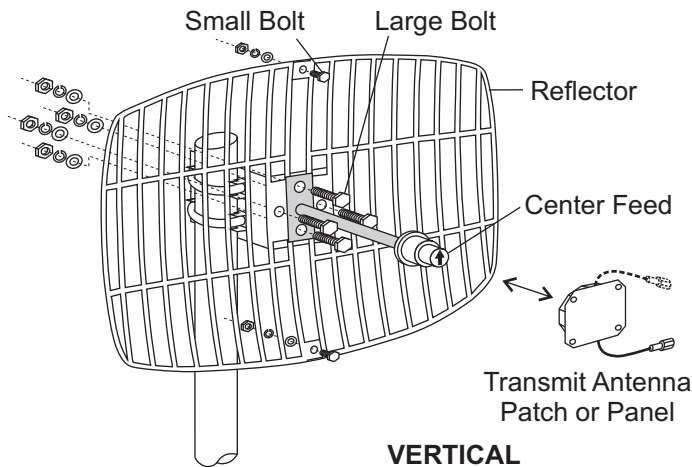
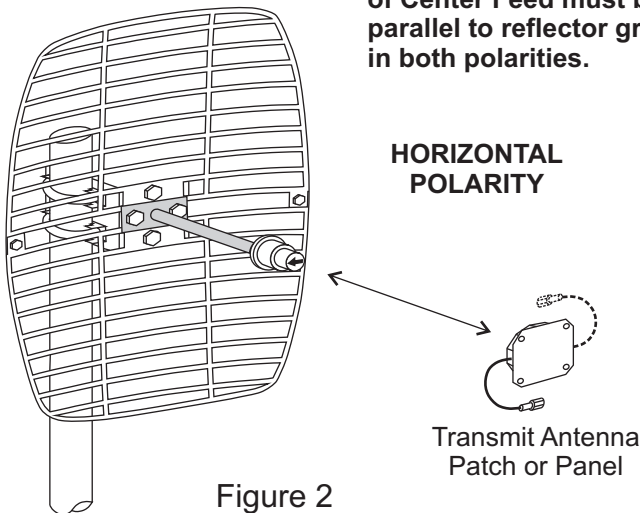

Figure 1
Figure 2
1. Assemble the two reflector halves using the small bolts, flat & lock washers and nuts (2 required for AH-83, 4 for AH-81; Figure 1, AH-83 shown).
2. Determine the polarity of the antenna by referring to Fig. 1 for vertical polarity or Fig. 2 for horizontal polarity. Attach the center feed to the front and the L-bracket to the back of the reflector using the 4 large bolts, flat & lock washers and nuts. Pay attention to the mounting flange of the center feed, which has to be parallel to the grid of the reflector. When changing the polarity of the antenna, remove the 4 large bolts then rotate the center feed and the reflector together 90° around the feed hole on the L-bracket. Reinstall the 4 bolts.